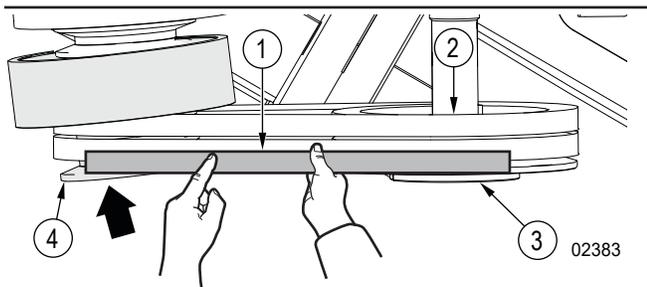

Figure 41 – Align the engine clutch
- If the edge of the engine clutch flywheel is not parallel (is on an angle) to the straight-edge tool, align the engine clutch. See *Figure 41 on page 55*. For instructions, see *Align the Engine Clutch on page 59*.